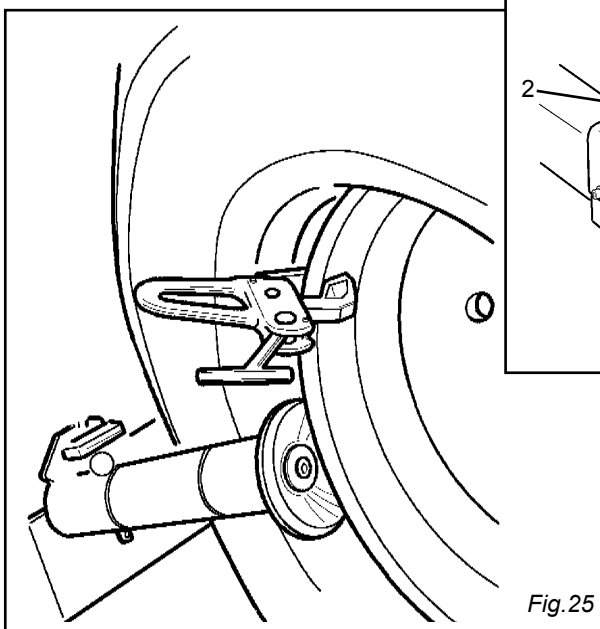

Fig. 25
8) Move the holder tool slightly away from tire bead, then remove the g-clamp and replace it at 6 o'clock outside the second bead (fig. 25)
9) Position the roller at a distance of 1/4" (4-5 mm.) from the rim and press on second tire bead in order to fit it into the drop center (fig.25)